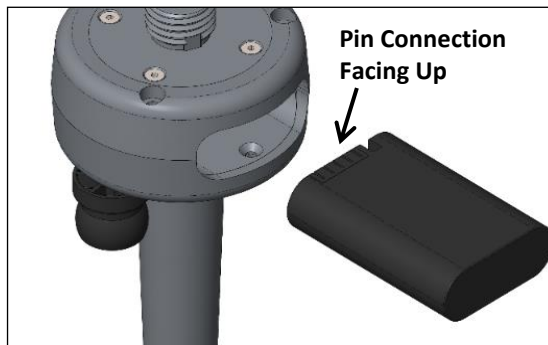
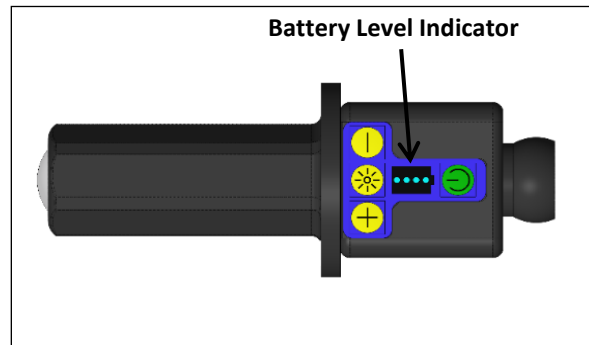

Figure 7.
Figure 8.
- 1) Insert a fully charged battery, with the pin connections facing up as shown in Figure 7, into the View Medical SurgiLight after the device is successfully installed. The battery level indicator on the control panel, shown in Figure 8, will light up green in sequential order after the battery has made proper connection with the terminals of the SurgiLight.